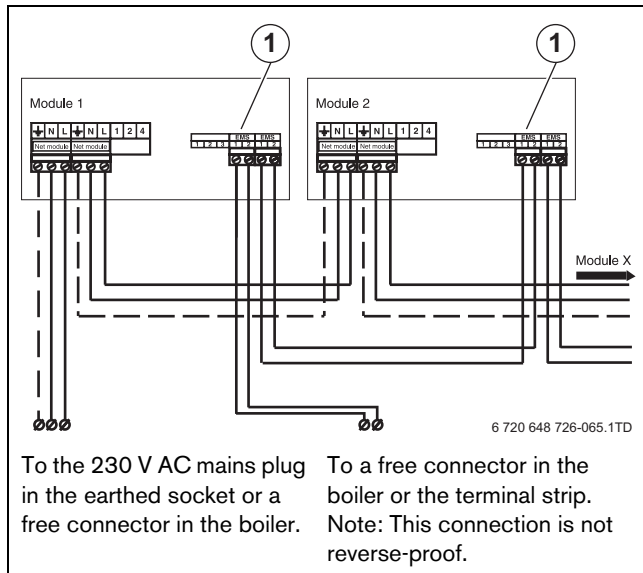

Fig. 65 Connecting several modules
- ▶ If more modules are used, the EMS bus connection for the second module may be branched off from the first module using the cable enclosed with the module (→ fig. 65 and 66).
- ▶ Connect the wire from terminal 1 to terminal 1 and from terminal 2 to terminal 2 (→ fig. 65 and 66).
- ▶ Connect the other end of the EMS bus connection cable to the first module (→ fig. 65).
i The module may have the letters RC or EMS above the connection (→ fig. 65, [1]).
- ▶ Connect the EMS bus connection lead of the first module to the next module (→ fig. 65).
- ▶ Connect the 230 V AC mains cable to the module (→ fig. 65). If more modules are used, the 230 V AC supply to the next module can be branched off from the previous module using the connector enclosed with the module and a 3-core 0.75-mm² current cable with an earthing wire.
- ▶ Connect the 230 V AC supply cable of the previous module to the next module (→ fig. 65).